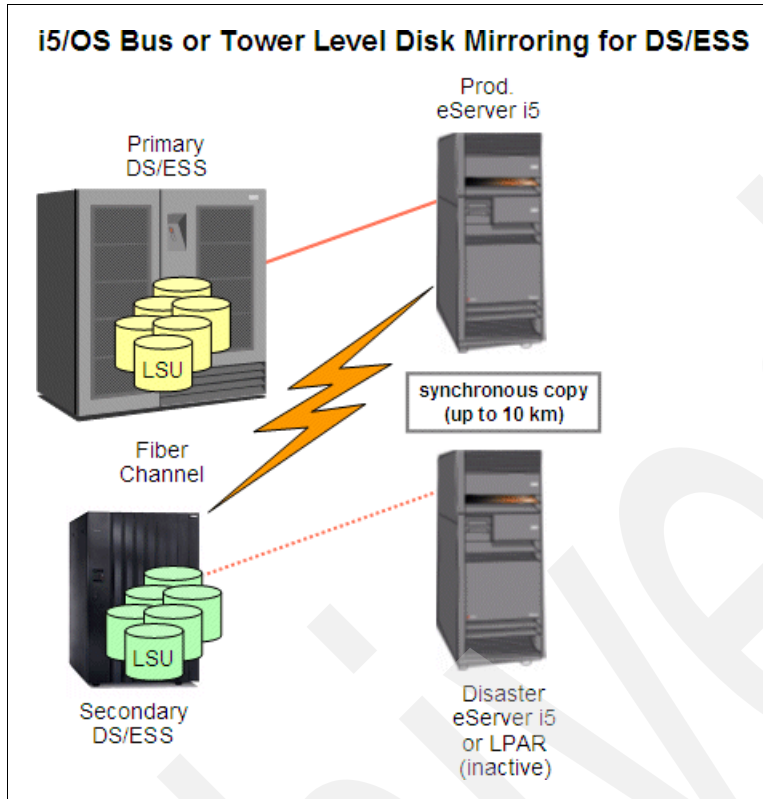

Figure 24-5 Mirrored external disks (RAID-1)
- ▶ Mirrored external disks, RAID-1 (Figure 24-5 on page 440):